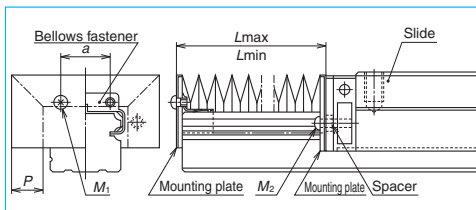

Fig. 7.7
* Fixing to the ball slide (Fig. 7.7)
- Remove two machine screws (M_1) which secure the end seals to the end of the slide (**Fig. 7.7**). For NS15 and DS15, hold the end cap by hand. Otherwise, the end cap is detached from the ball slide, and the balls inside may spill out.
(5) Bellows
- To install bellows for NH, NS, DH, and DS Models lightly knock a fastener exclusively for bellows to the end of the rail (**Fig. 7.7**). Then secure the mounting plate to the end of the bellows through the tap hole of the fastener.